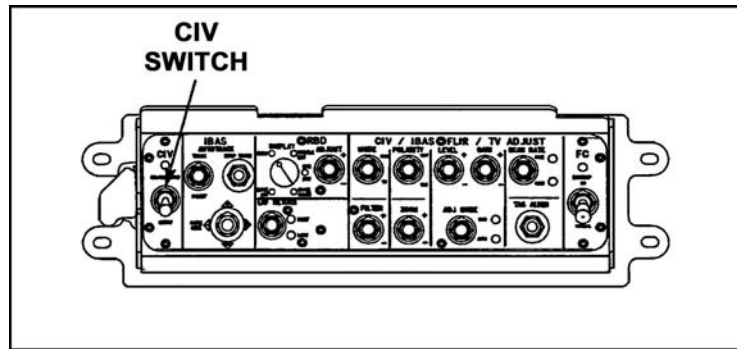

Figure 7. CIV UNSTOW/STOW switch.
i. Unstow the commander's independent viewer (CIV) (Figure 7).